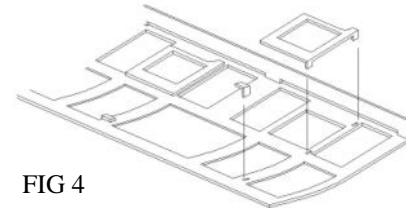

FIG 4
5. Remove the droplights (window frames) from the fret. The top door hinges are integral but you will have to remove the bottom door hinges (located on the fret between the top two and attached to the droplight by a 'tab'). Bend the hinges through 90 degrees with the half etch line to the inside, then locate through the slots in the sides and solder. (Figure 4) The fret contains closed and partially open droplights for variation.